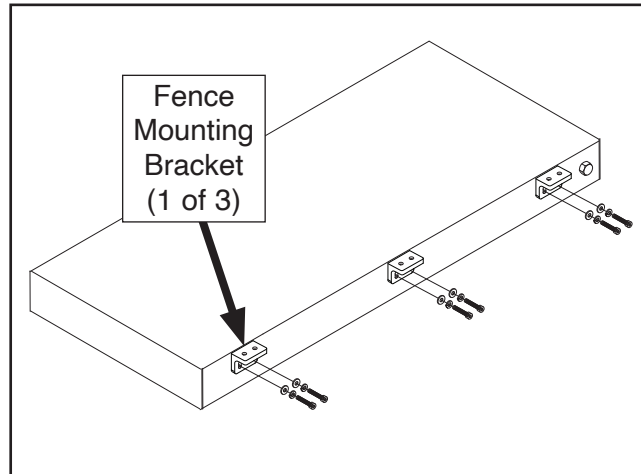

**Figure 12.** Attaching fence mounting brackets to infeed table (machine and table support removed for clarity).
8. Attach (3) fence mounting brackets to infeed table with (6) M6-1 x 20 cap screws, (6) 6mm lock washers, and (6) 6mm fender washers (see **Figure 12**).